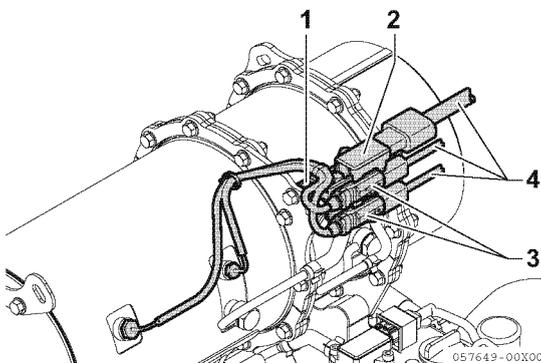

Figure 13-22
- Remove the exhaust differential pressure sensor (2 **Figure 13-22**) connected to the sensor bracket (1 **Figure 13-22**), and the wiring (4 **Figure 13-22**) from the engine or driven machine that is connected to the exhaust temperature sensor couplers (2 pcs.) (3 **Figure 13-22**).